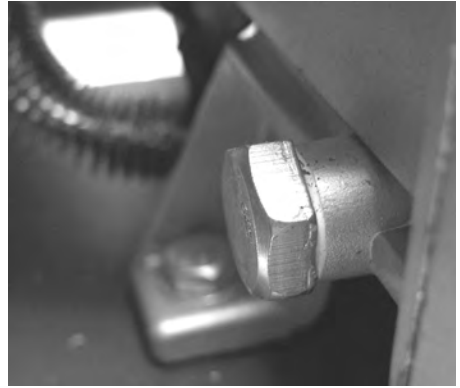

FIGURE 10
4. Place a suitable oil drain pan below oil drain plug (see Figure 10).